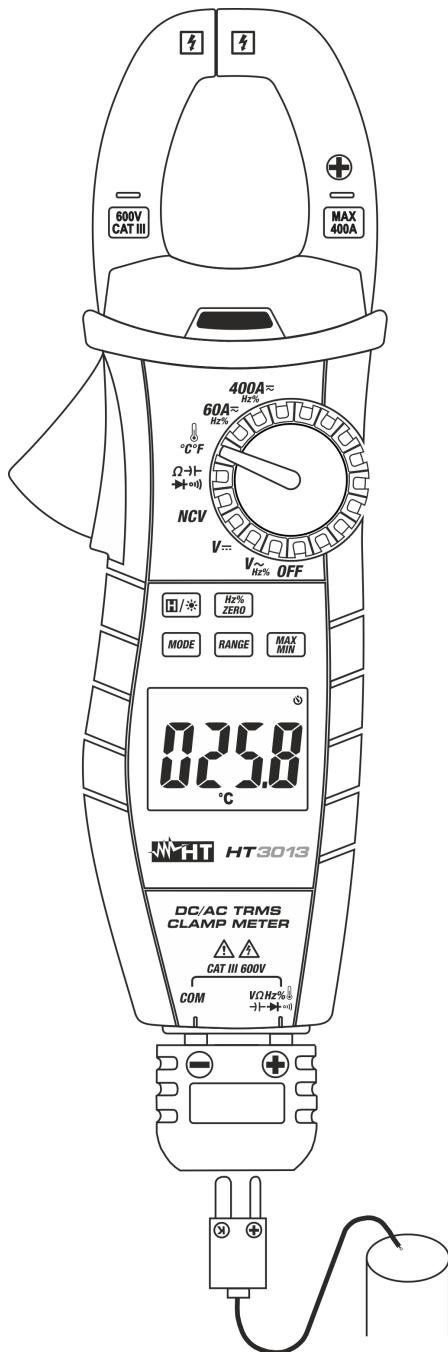

Fig. 10: Use of the instrument for temperature measurement with type K probe
3. Insert the K wire probe provided into input terminal  $\text{V}\Omega\text{Hz}\%\rightarrow\leftarrow\rightarrow\leftarrow\right)$  and **COM** by means of the relevant adapter, respecting the polarity indicated in Fig. 10. The display shows the value of temperature.